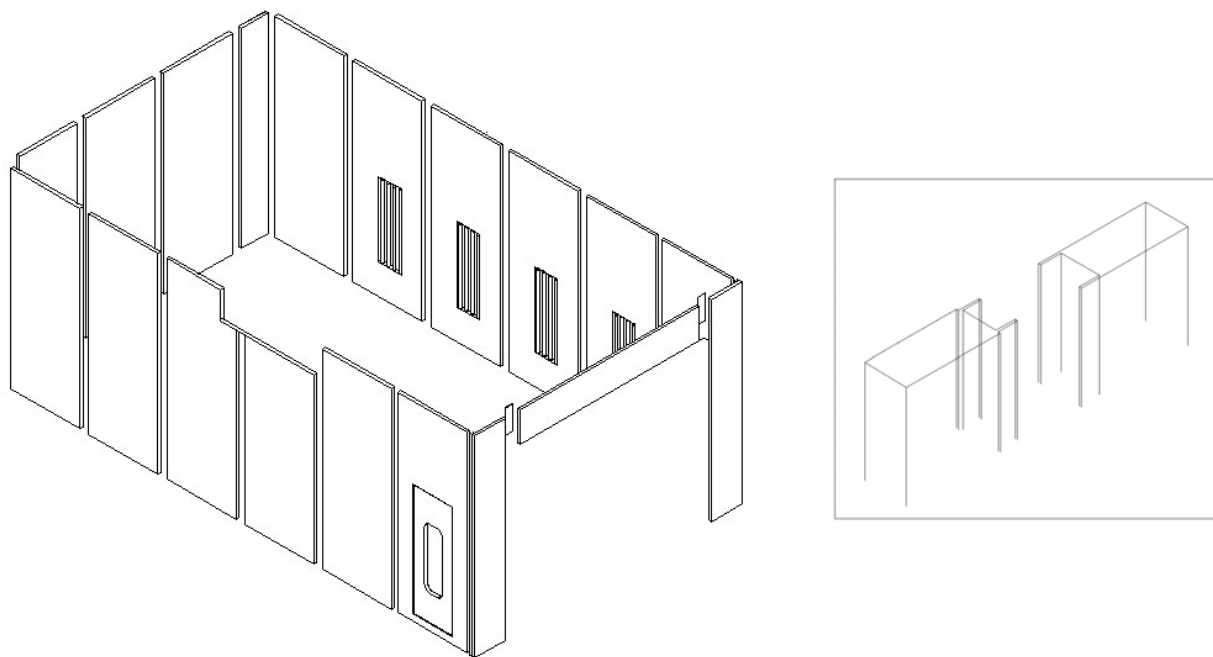

Fig. 3.8
1) connect the wall board in turn and fix them to the down U style slot with nail, make sure the gap should be smallest. Check the whole length of two sides wall board should be suit for the demand. (shown in Fig.3.8)